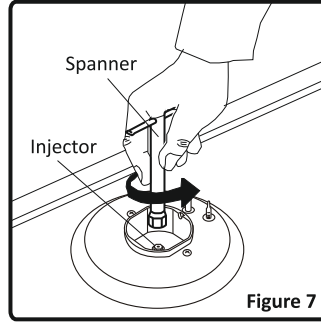

Figure 7
- Unscrew the injectors. For this, use a 7mm spanner(Figure 7).